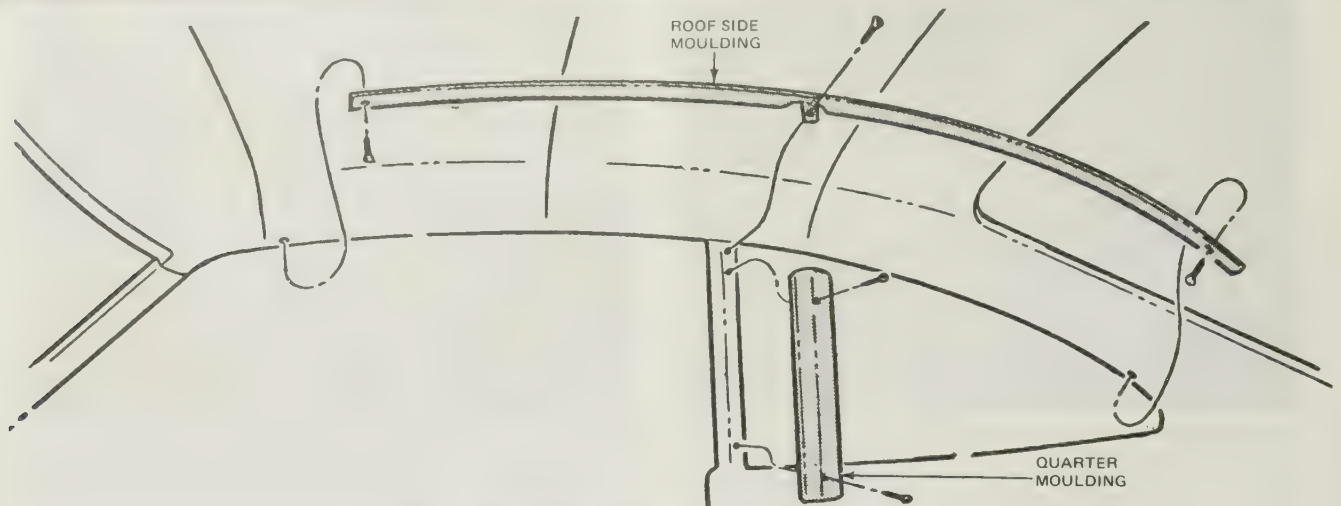

Fig. 12.10. Quarter window trim mouldings (Sec. 22)
- 1 Carefully remove the quarter window trim surround (see Fig. 12.10).